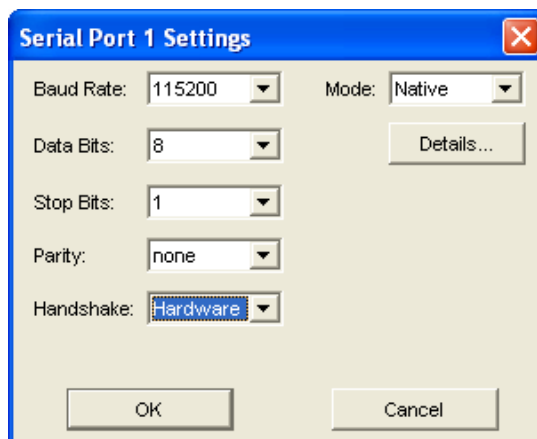

Figure 2-8: Serial Port Settings
2. Select **Hardware** from the Handshake drop-down list (Figure 2-8).